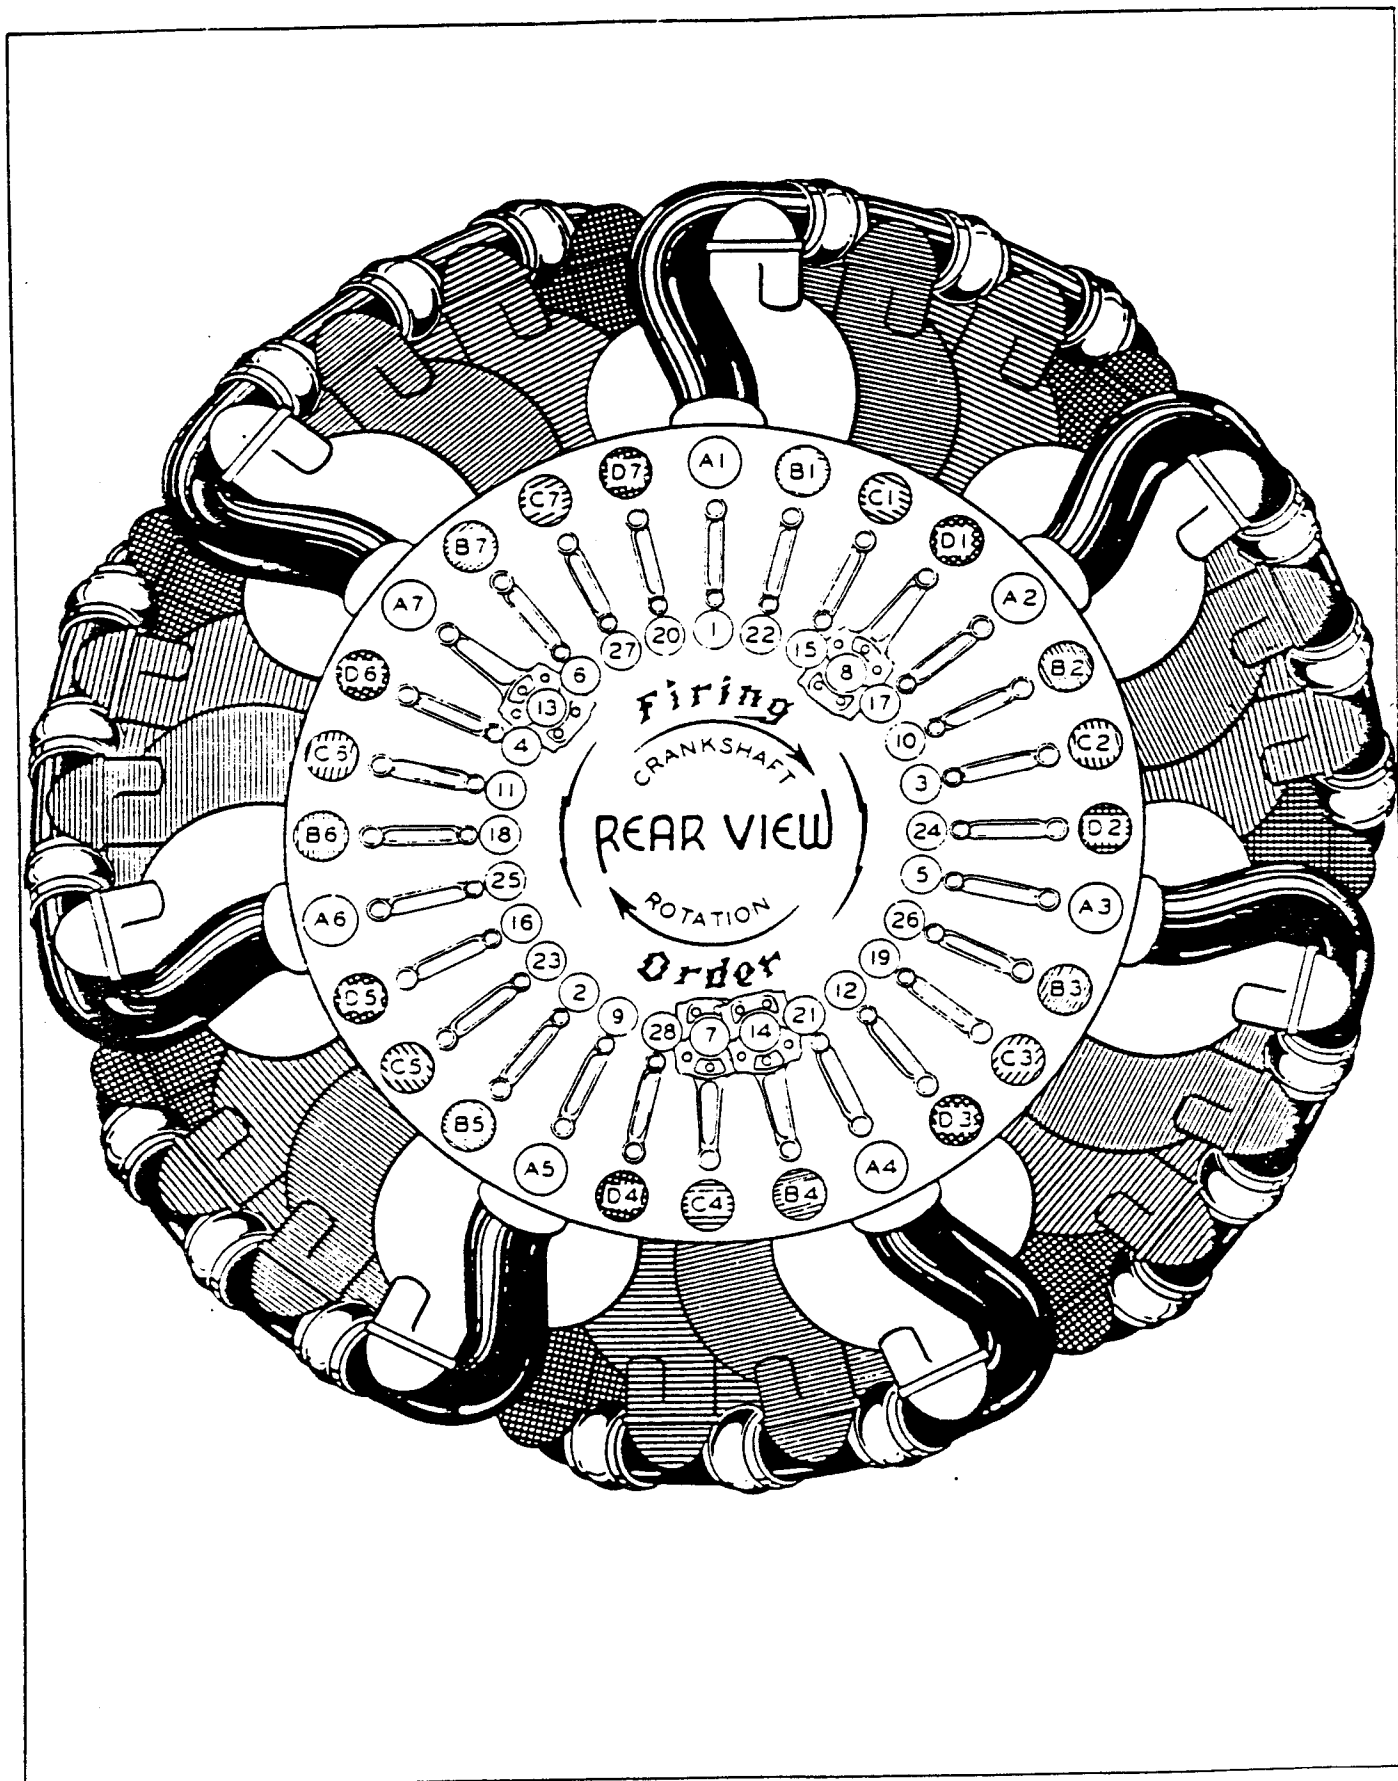

Figure 2. Cylinder Numbering Diagram
a. GENERAL.- The radio shielded ignition system consists of seven separate Scintilla D4RN-2 magneto and integral distributor units (one complete unit for the four cylinders in each of the seven banks), spark plug lead and distributor block harness, spark plugs; triple unit, single spark, starting coils; pressurizing equipment, Joseph Pollak Corporation control units, a spark advance mechanism, necessary circuits and circuit breakers. Each lead harness directs the high tension impulses generated by its magneto to the eight spark plugs in the bank of four cylinders just behind the magneto. The engine firing order (see figure 2) is as follows: